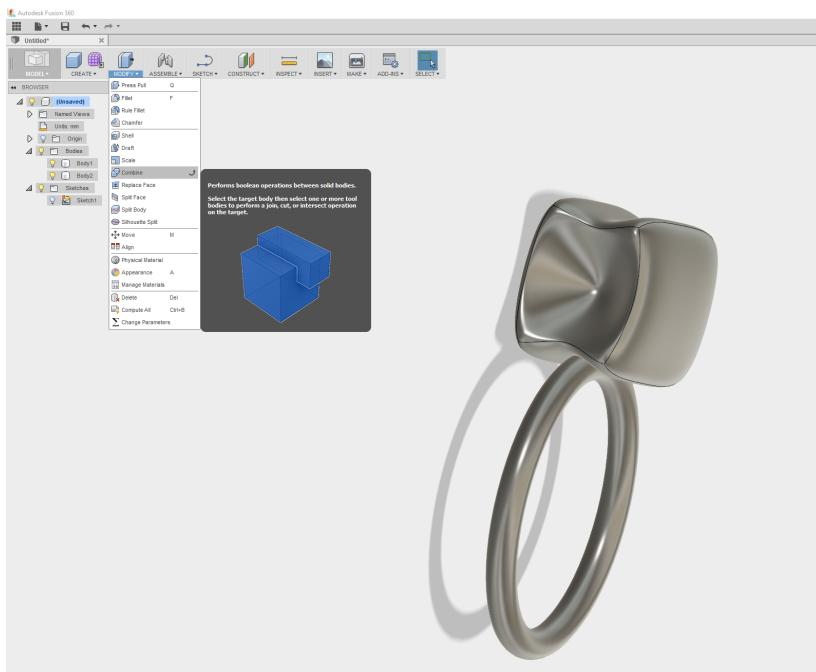

Figure 11-19. Initiating the *Modify* → *Combine* command to merge the shapes
25. Click the arrow under Modify and then select Combine as shown in Figure 11-19.